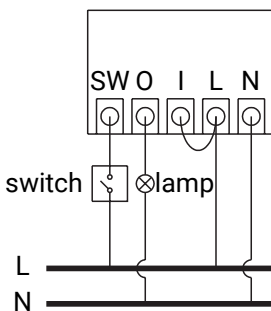
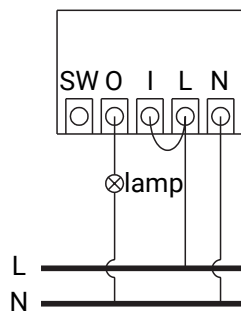
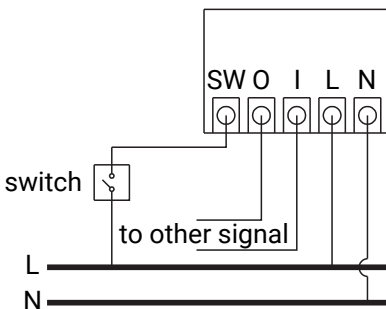
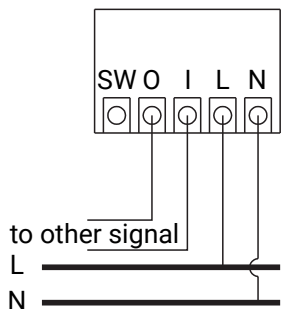

Figure 1
Figure 2
Figure 3
Figure 4
- If an external switch is required, connect the "SW" terminal to the live wire via the switch, as shown in Figure 1 or Figure 3.
- If no external switch is required, leave the "SW" terminal unconnected, as shown in Figure 2 or Figure 4.
- **Mains Power Connection (Figure 1 or Figure 2):**
- **Other Applications Connection (Figure 3 or Figure 4):**